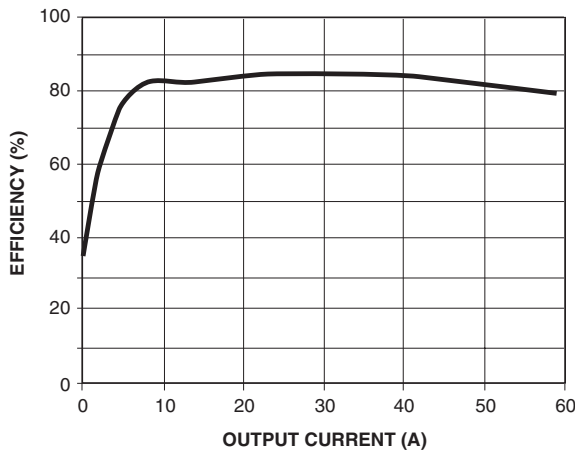

Figure 8. AC Loadline Waveform
15. You will see a waveform that looks something like Figure 8. Use the horizontal cursors to measure  $V_{ACDRP}$  and  $V_{DCDRP}$  as shown.